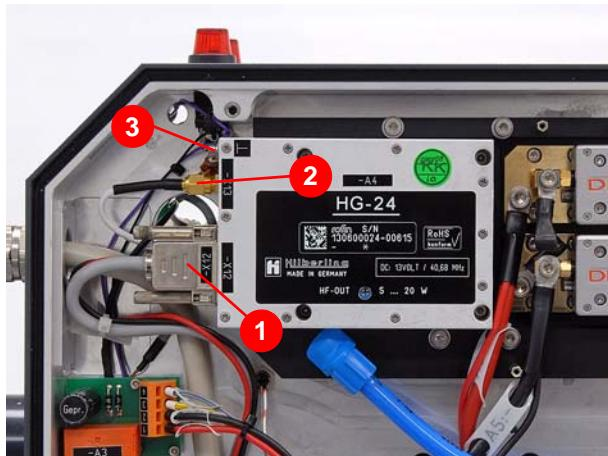

Figure 7.107 Removal of the HG-24
2. Disconnect the connecting plug -X12 (1) (Figure 7.107), HF line -X13 (2), and ground line (3).